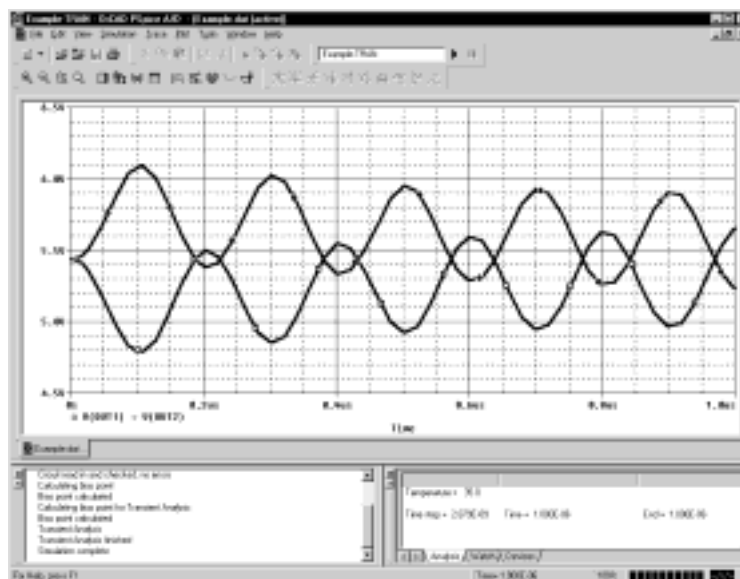

Figure 117 Waveform display for EXAMPLE.DAT.
PSpice A/D generates a binary waveform data file containing the results of the simulation. A new Probe window appears with the waveform data file EXAMPLE.DAT already loaded (Figure 117).
- 2 Click V(OUT1) and V(OUT2), then click OK. The Probe window should look similar to Figure 117.